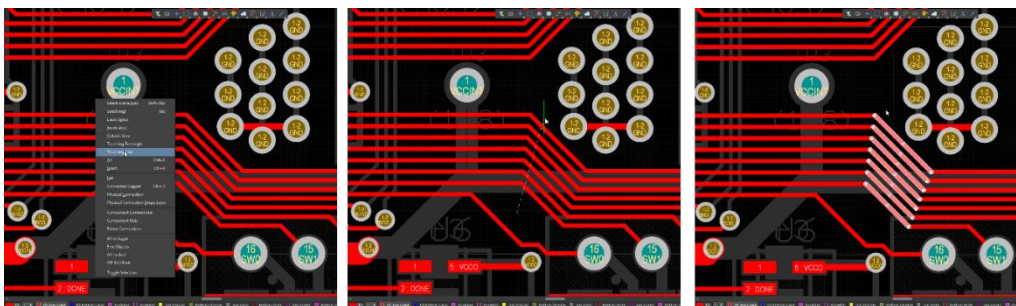

Figure 23. Press S, L then click to select segments touching that line
46. You can also slide multiple selected segments. The easiest way to select multiple segments is to use the Select Touching Line command. To launch this command, press **S** to activate the *Select* sub-menu, then press **L** to run the **Touching Line** command, Figure 23:
- Position the cursor below the diagonal segment of SW1, click once to start the selection line, then move the cursor up so that the selection line touches all the diagonal segments for SW1 through SW7. Then, click a second time to perform the selection, take a look at Figure 23 for a better idea of how this works.